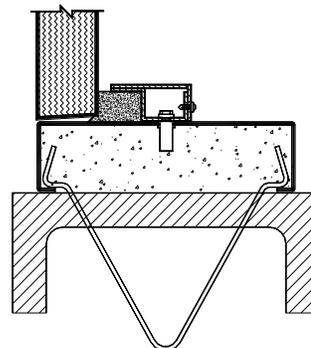

FIGURE 3
**D. Installation In New Masonry Partitions (Fig. 3).** Instructions for this type wall are not significantly different from those above other than the actual anchorage to the wall and grout fill which takes place as the wall is erected. Special precautions should be taken to prevent the head and jambs from bowing during grout fill.